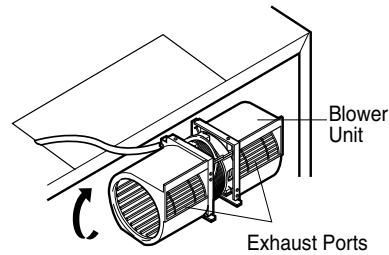

Figure 16
5. Rotate the blower unit so that the exhaust ports face the rear of the cabinet. See Figure 16.